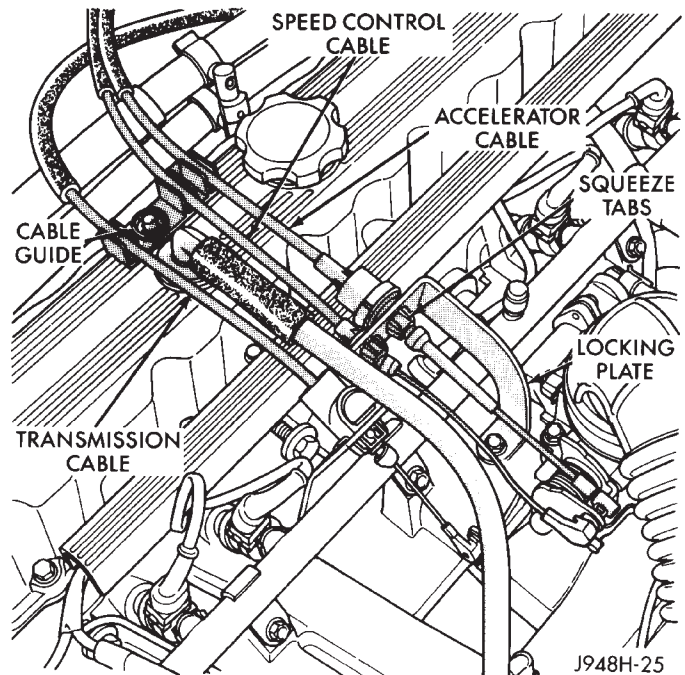

Fig. 6 Squeeze Tabs at Cable Locking Plate
- (3) Two squeeze tabs are located on sides of speed control cable at cable locking plate (Fig. 6). Squeeze the tabs together and push cable out of cable locking plate.
- (4) Unclip cable from cable guide at valve cover (Fig. 6).
- (5) Disconnect servo cable at servo. Refer to Speed Control Servo—Removal/Installation.